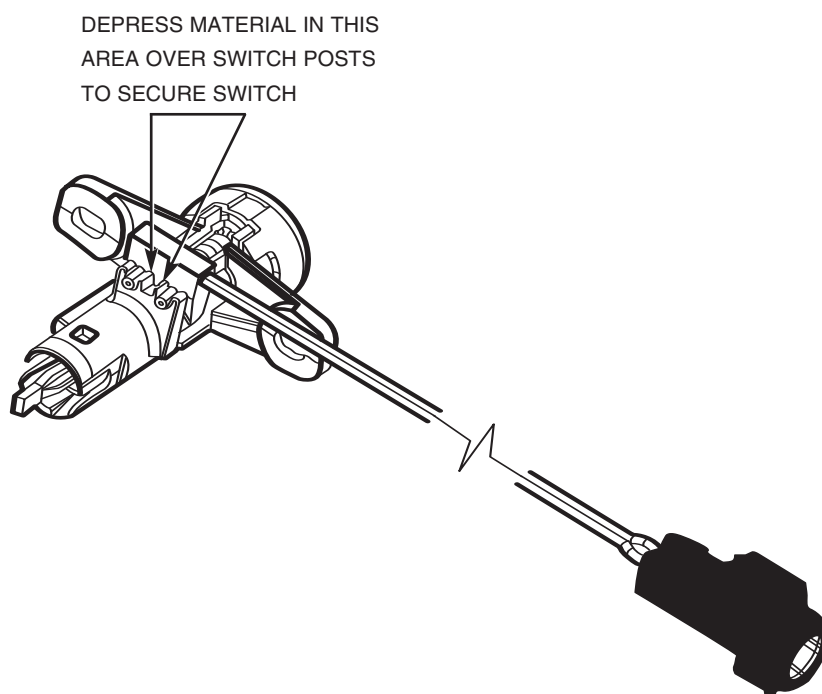

FIGURE 4
21. With a punch depress case material on both sides of middle slot as shown in Figure 4 to secure switch.